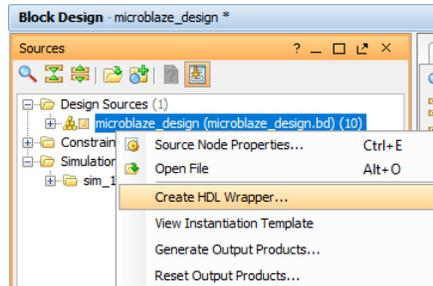

Figure 12: Address Editor tab.
18. In the *Sources* window, right-click on the top-level system design, which in this case is **microblaze_design**, and select **Create HDL Wrapper**, as shown in Figure 12.